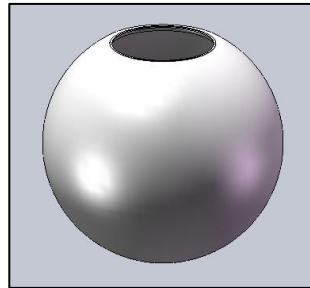

FIG.4 ACRYLIC GLOBE
2. ACRYLIC GLOBE. (shown in FIG. 4)